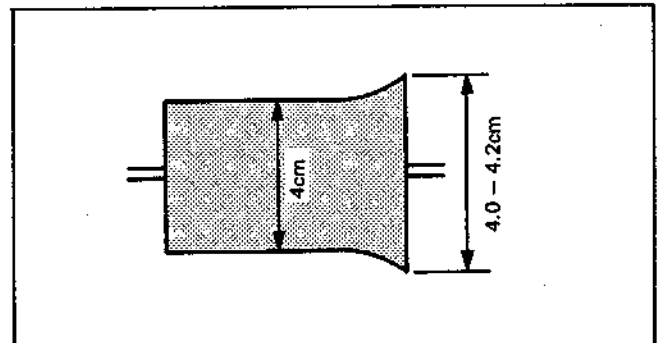
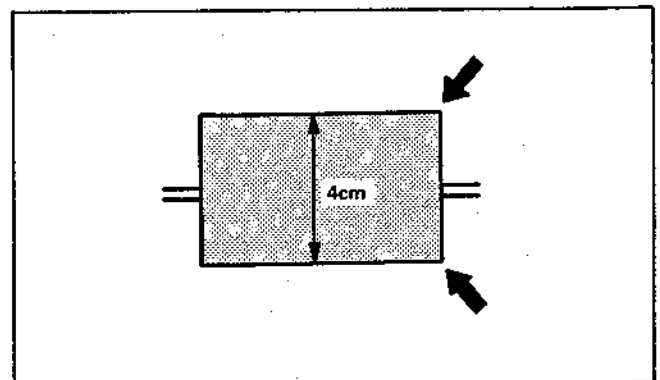

Fig. 2-20 No. 4 Guide Waveform
Fig. 2-21 No. 3 Guide Waveform
- 7) Turn No. 4 guide adjustment nut clockwise, so that the RF output waveform is as shown in Fig. 2-20.
- 8) Turn the No. 3 guide adjustment nut clockwise, so that the RF output waveform exit portion marked by the arrows (Fig. 2-21) is 1 – 2mm lower than the state in Fig. 2-20.